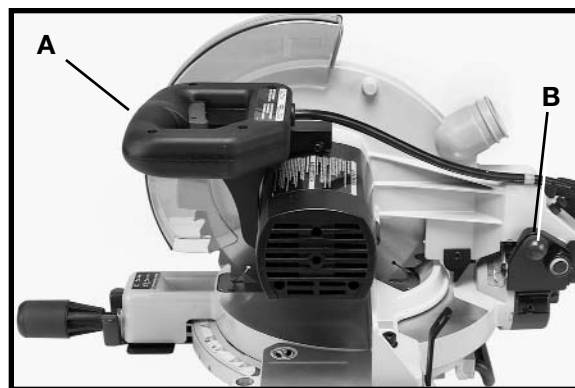
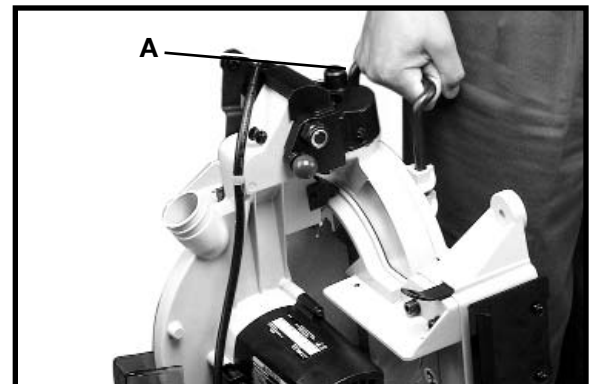

Fig. 17
Fig. 29C
When transporting the saw, the cuttinghead should always be locked in the down position. Lower the cuttinghead (A) Fig. 17, and push in cuttinghead lock knob (B) until it engages with hole in cuttinghead. **IMPORTANT: CARRYING THE MACHINE BY THE SWITCH HANDLE WILL CAUSE MISALIGNMENT. ALWAYS LIFT THE MACHINE BY THE BASE OR BY THE CARRYING HANDLE (See Fig. 29C).**
The support bar (A) Fig. 29C can also be used to carry the machine.